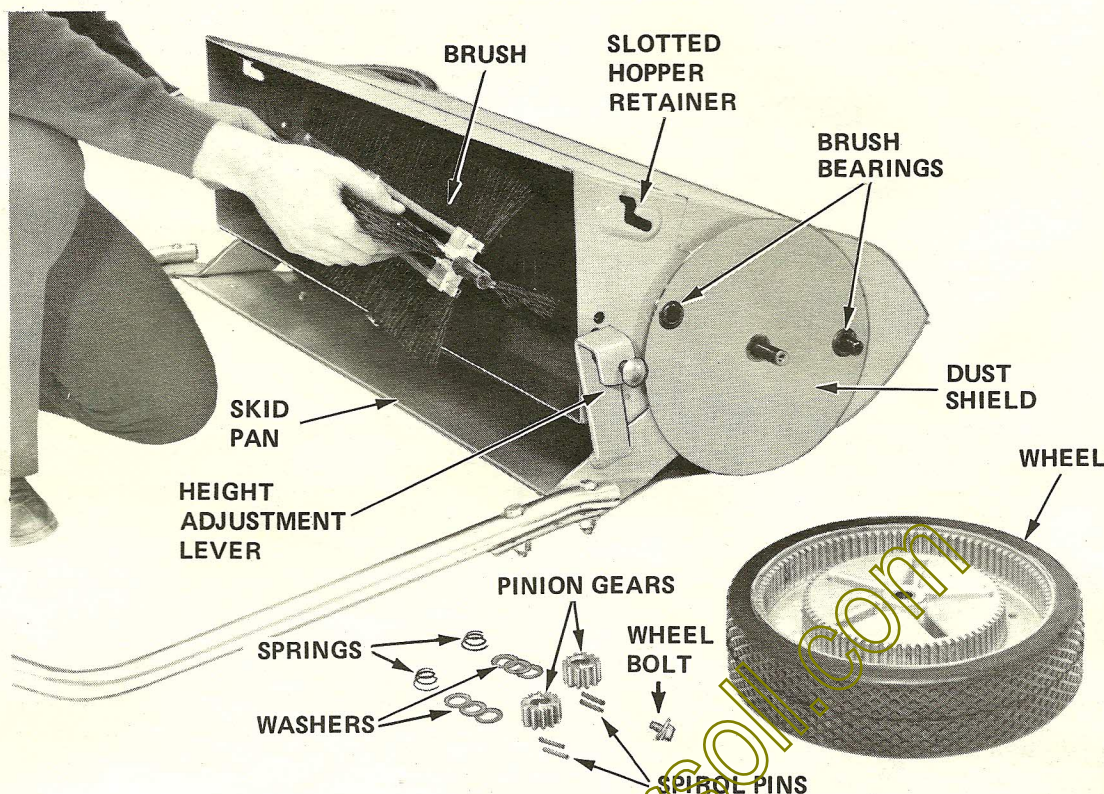

Figure 6 Removing Brush (Left Side Only Shown for Clarity)
2. Before sweeping, pick up all tree branches, etc. too large to be picked up by the sweeper as they can lodge in the brush mechanism and cause wheel slippage. The metal skid pan (See Fig. 6) which is under the full width of the sweeper protects it from rocks and protruding objects.
The Hopper should then be inserted in the slotted hopper retainers (Figure 6) in the Sweeper Housing Assembly.